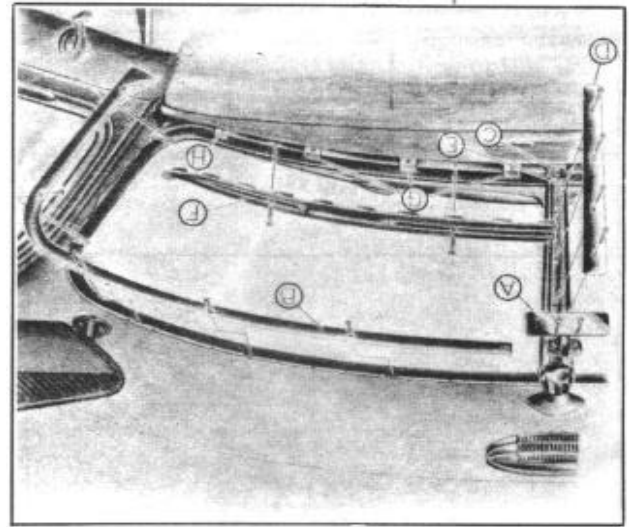

FIGURE 44
10. Install one center lower windshield retainer (G), Figure 44, to secure windshield in proper position.